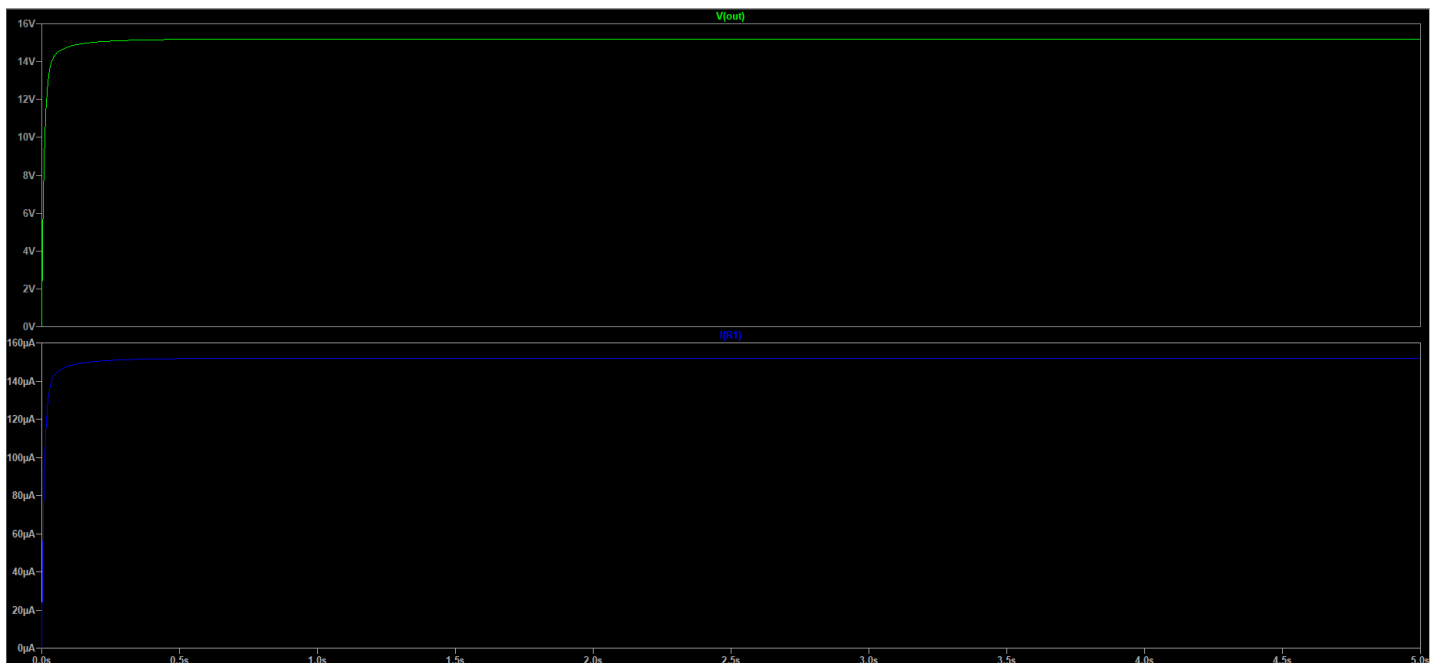

Figure 24: Output With Load Resistor
- The figure 24 shows us the output voltage and the current passing through the 100-k Ω resistor. Please notice that it clearly DC output and there is no noticeable ripple, thanks to the higher capacitance values. If we wait long enough there will be a loss on the diodes but the output will converge to the 20 volts.